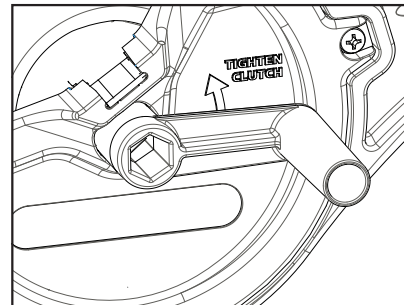

Figure 25
3. Install the handle's hex pattern to match the hex pattern on the spool. Once installed, turn the crank towards you to retrieve the weight. (Figure 25)